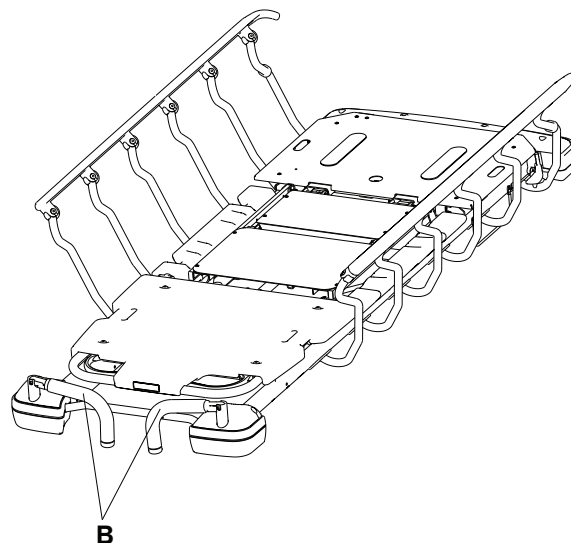

Figure 12 – Stowing the head end push handles
3. Reverse steps to stow the head end push handles (B) (Figure 12).